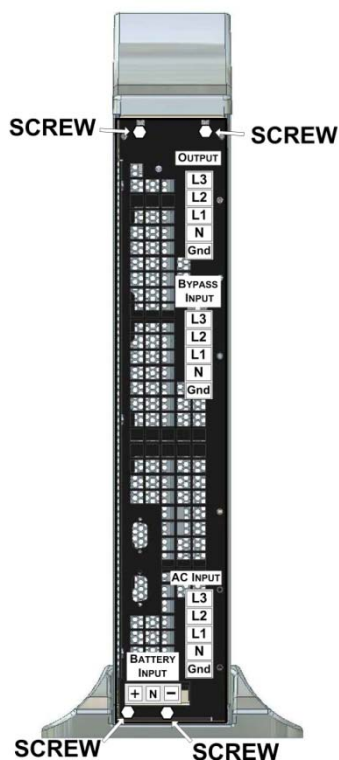

Figure 25: Remove the four screws from the rear panel
19. On the rear panel of the UPS, remove the screws that secure the internal UPS body to its external shell. (See Figure 25. Note – the number and position of the screws may differ from that shown in Figure 25.)